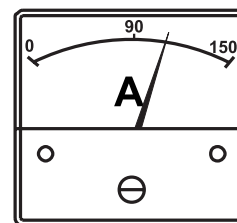

Figure 54. Ammeter (Load)
11. Observe the generator's ammeter (Figure 54) and verify it reads the anticipated amount of current with respect to the load. The ammeter will only display a current reading if a load is in use.